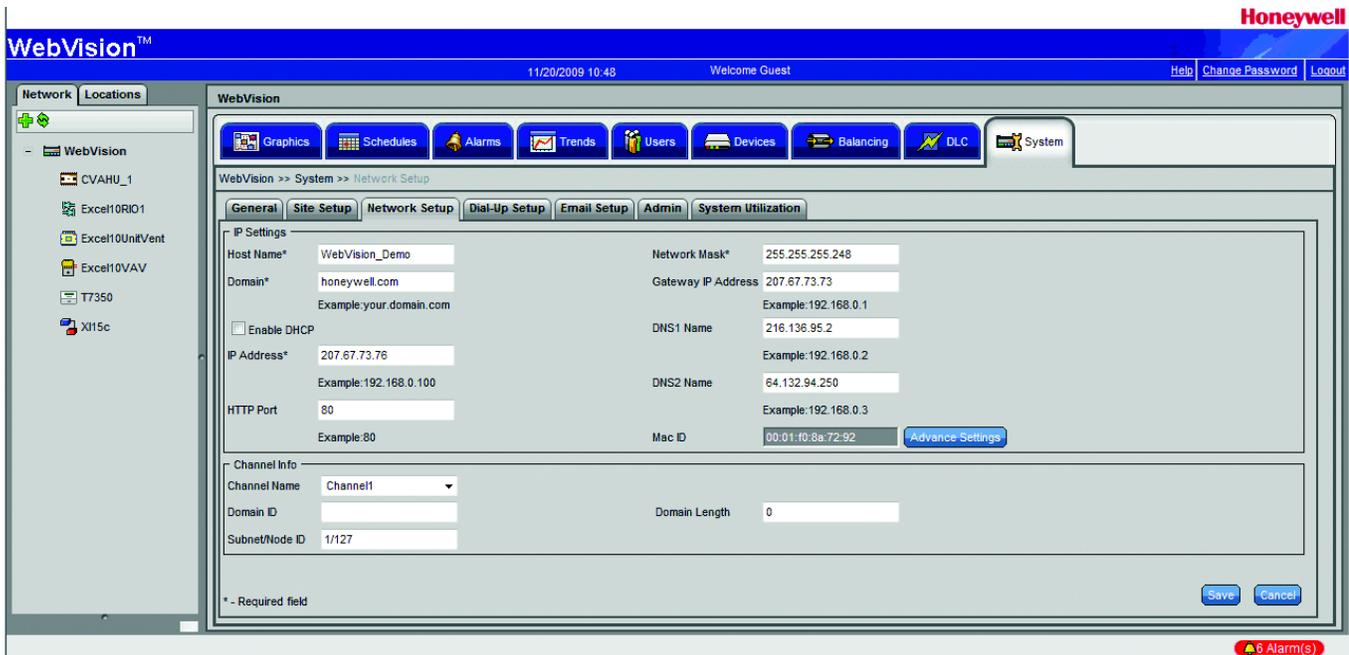

Fig. 16. Configuration window - System Tab - Network Setup sub-tab.
1. Click on the **Network Setup** sub-tab (see Fig. 16), enter the network information. The required information can be obtained from the **Network Setup Worksheet** (reference **Network Setup Worksheet** in “Appendix” on page 17) that you have completed using the instructions in the “Network Setup Information Requirements” on page 3.